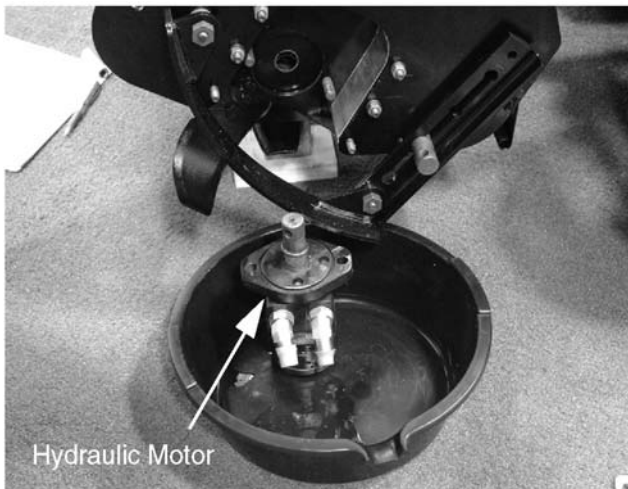

Figure 8-104.
9. Remove the hydraulic motor and place it in an oil pan. See Figure 8-104.